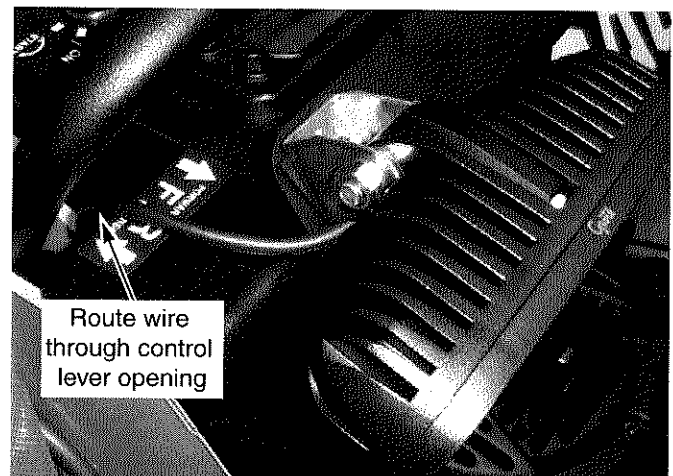

Figure 3. Install Light Bracket Assembly
4. Install the light bracket assembly to the front of the instrument panel by removing and replacing the original hardware indicated with (2) 1/4-20 x 3/4" taptite screws provided. Route head lamp wires through control lever openings. See Figure 3.